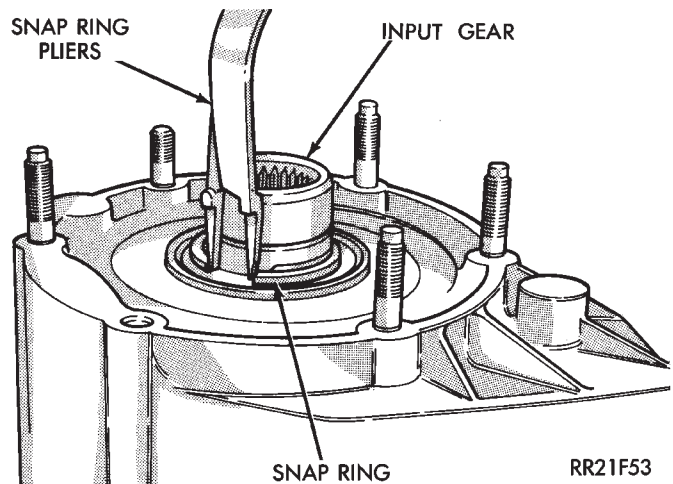

Fig. 42 Installing Input Gear Snap Ring
(5) Install input gear snap ring (Fig. 42).